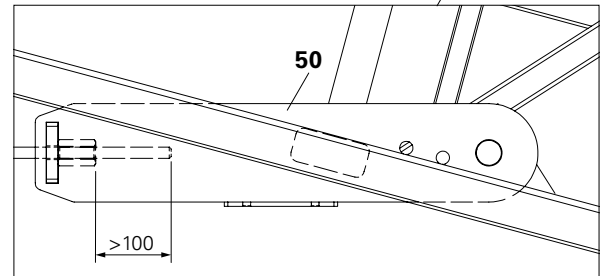

Fig. A8.03a – Suspension Tie Connector on the Eave Element.
- Check projecting Tie Rod (27.1) – dimension 100 mm – in the Suspension Tie Connector. (Fig. A8.03a)